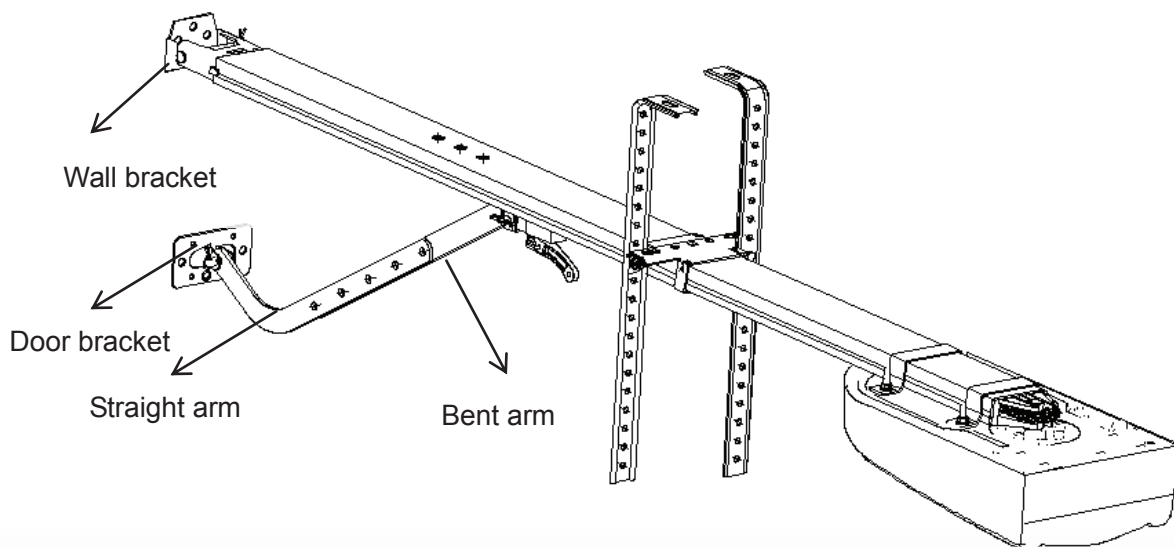

Fig.9
5. Fixing the door bracket on the door panel. (Fig. 9)
6. Fixing the straight arm and bent arm. (Fig. 9)